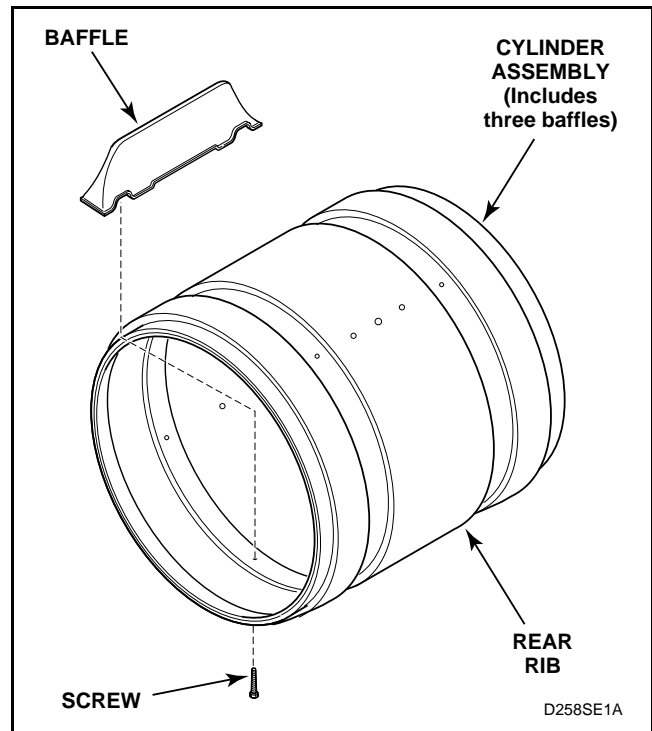

Figure 52
NOTE: When reinstalling belt, be sure belt is properly installed on motor and idler pulleys, and is on the correct side of the idler lever. See *Figure 43*. Belt must be positioned around center section of cylinder approximately three inches ahead of rear rib on cylinder. See *Figure 52*. After installing belt, manually rotate cylinder counterclockwise to check that belt is properly aligned.
NOTE: When reinstalling belt, be sure belt is properly installed on motor and idler pulleys, and is on the correct side of the idler lever. See *Figure 43*. Belt must be positioned around center section of cylinder approximately three inches ahead of rear rib on cylinder, with the ribbed surface of the belt against the cylinder. See *Figure 52*. After installing belt, manually rotate cylinder counterclockwise to check that belt is properly aligned.
- Baffles – Remove screws holding baffles to cylinder. See *Figure 52*.
NOTE: When reinstalling belt, be sure belt is properly installed on motor and idler pulleys and is on the correct side of the idler pulleys. See *Figure 43*. Belt must be positioned around center section of cylinder approximately three inches ahead of rear rib on cylinder with the ribbed surface of the belt against cylinder. See *Figure 52*. After installing belt, manually rotate cylinder counterclockwise to check that belt is properly aligned.